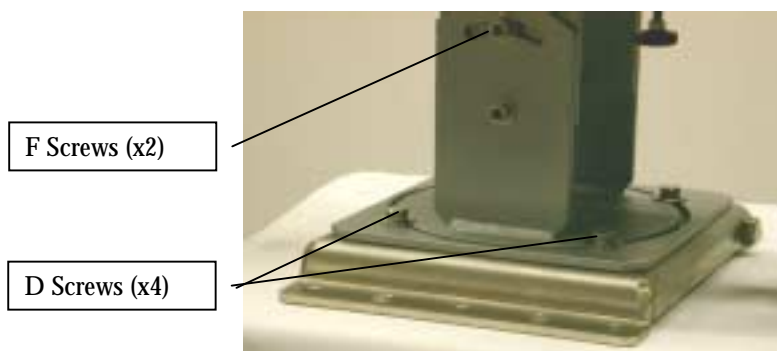

Fig. 6.8: Coarse Alignment Screws
1. Slightly loosen the four Horizontal Motion Locking Screws (screws D) and the two Vertical Motion Locking Screws (screws F) – see Fig 6.8.